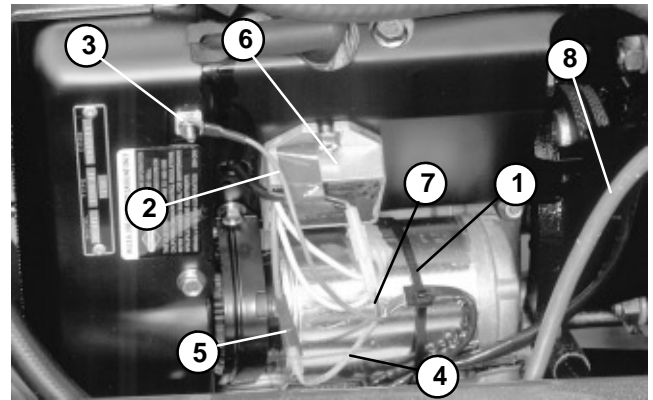
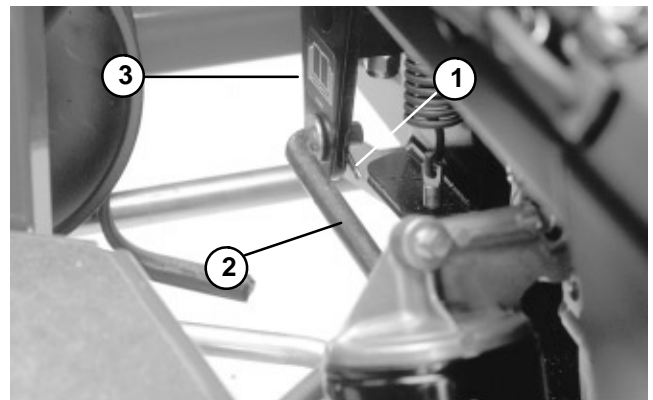

Figure 38
Figure 39
**NOTE:** Do not disconnect brake linkages or remove traverse rod when disconnecting the exhaust tube (17) and muffler (1) from the engine (16).
4. Separate exhaust tube (17) and muffler (1) from the exhaust manifold (see Muffler Removal).
5. Close fuel shutoff located below the fuel tank. Clamp fuel hose (12) near engine (16) to prevent fuel spillage. Loosen hose clamp (28) and remove fuel hose (12) from the engine.
6. Remove cable tie from the starter and wire harness. Disconnect harness as follows (Fig. 38):
7. Remove air hose (33) from air cleaner cover (19).
9. Remove cotter pin from the pump control rod. Separate rod from the pump lever (Fig. 39).
5. Insert end of pump control rod into the pump lever. Secure rod with cotter pin (Fig. 39).
7. Install air hose (33) to air cleaner cover (19). Secure hose with hose clamp (34).
8. Secure fuel hose (12) to the engine (16) with hose clamp (28). Remove clamp used to prevent drainage from fuel hose (12). Open fuel shutoff located below the fuel tank.
10. Connect harness as follows (Fig. 38):